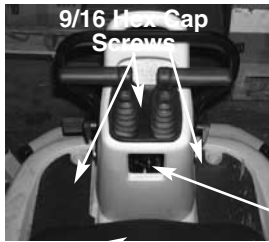

FIGURE 1.
1. Assemble the differential gear assembly flat on a work bench and in the correct sequence. See figure 1.